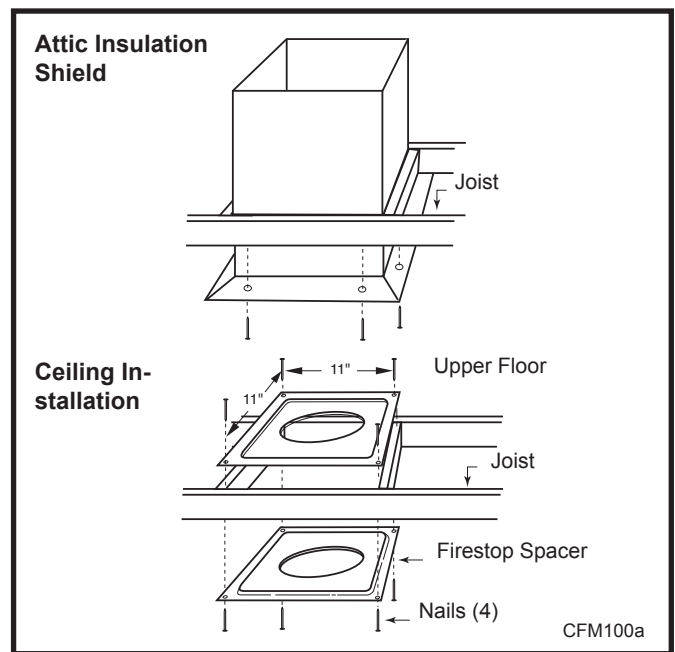

Fig. 52 Place firestop spacer(s) and secure.
6. Place firestop(s) #7DVFS or Attic Insulation Shield #7DVAIS into position and secure. (Fig. 52)